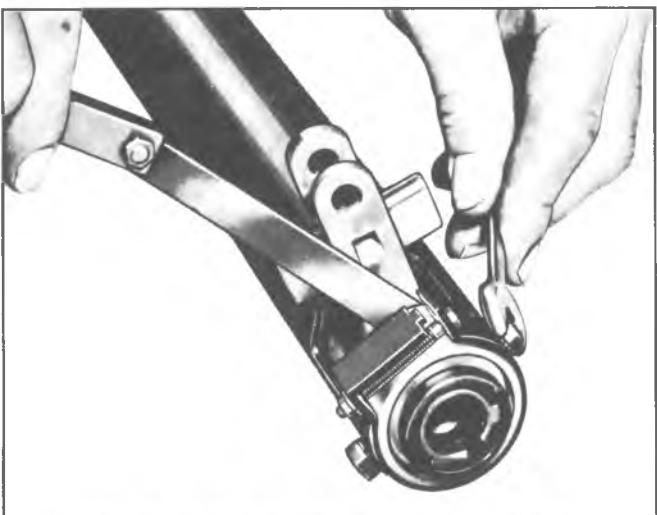

Fig. 37—Shift Tube Adjustment - 3 Speed Man. Transmission
2. Rotate adjusting ring to give .005" end play between adjusting ring and first and reverse shifter lever (fig. 37).